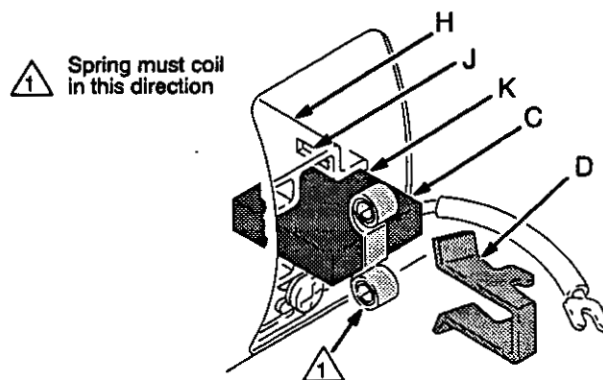

Fig. 40
5. Install the new brush so its lead is in the long slot of the holder. Slide the terminal under the terminal screw washer. Make sure the motor lead is still connected at the screw. Tighten the screw. See Fig. 40.
6. Place the spring on the brush as shown in Fig. 40.
7. Push in and hook the spring clip. See Fig. 40.